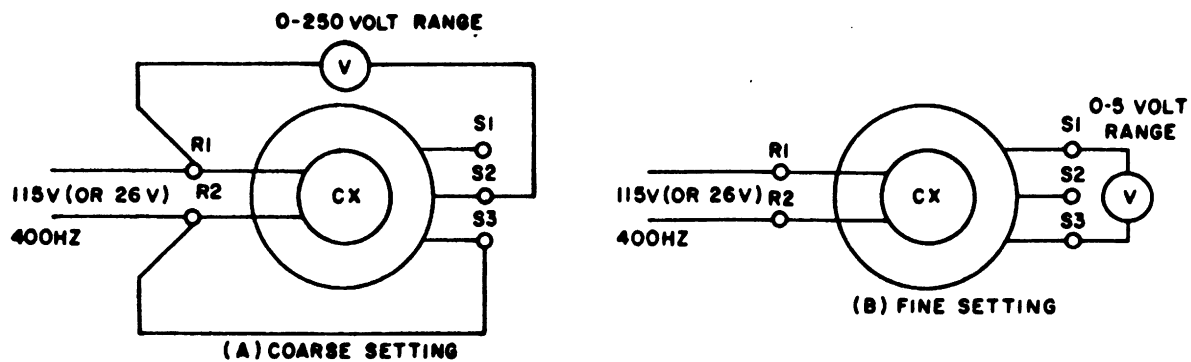

Figure 6-15. Zeroing the 15CX4 Synchro Transmitter
- (1) Loosen the clamp holding the Synchro Transmitter and remove the wires from the stator leads (S1, S2, S3).
- (2) Connect a precision voltmeter (0 to 250 volts ac) as shown in Figure 6-15 (A).
- (3) Turn the transmitter housing until the voltmeter reads about 37 volts. This is the approximate zero setting.
- (4) Connect the voltmeter as shown in Figure 6-15 (B). Turn the transmitter housing until the voltmeter indicates a null (minimum) reading. Tighten the clamp holding the Synchro Transmitter and reconnect the wires to the stator leads.